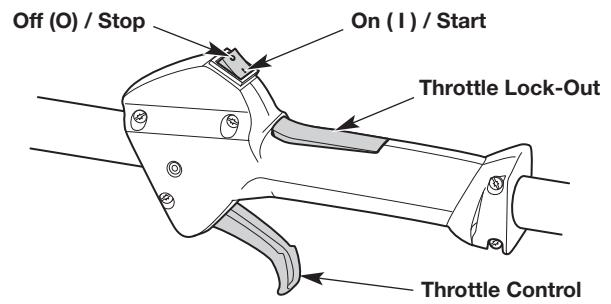

Fig. 10
**NOTE:** There is no need to turn the unit on. The On/Off switch is in the ON (I) position at all times (Fig. 10).
6. Press the throttle lock-out and squeeze the throttle control (Fig. 10). Pull the starter rope with a controlled and steady motion **5 times** (Fig. 12).
2. Press and hold the On/Off switch in the OFF (O) position until the engine comes to a complete stop (Fig. 10).